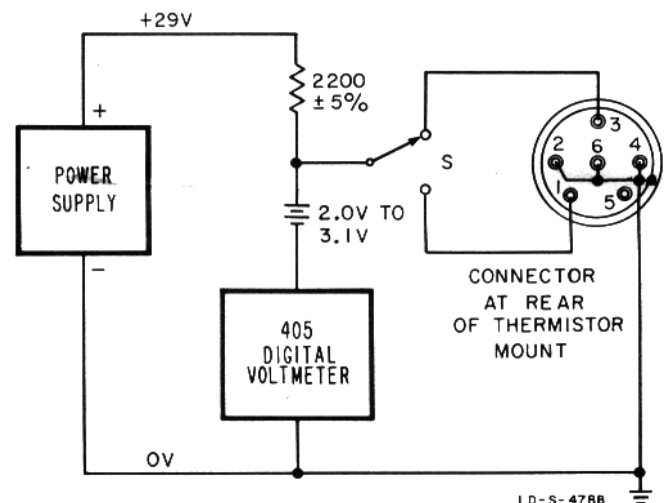

Figure 6. Check on Model 478A Thermistor Resistance Match
52. Match between the thermistors may be checked by comparing the thermistor resistances under simulated operating conditions. Equipment required is indicated in Figure 6. Make connections to the connector at the rear of the thermistor mount; pins are shown in Figure 6. Note that the small battery in series with the HP Model 405 Digital Voltmeter is connected in opposition to the power supply. The value of this bucking voltage should be such that voltmeter resolution down to 0.001 volt is obtained. Take readings with switch S connected to pin 1 and then to pin 3. Thermistor match is satisfactory if the two readings do not differ by more than 0.030 volt. Nonoperating mounts with readings as high as 0.150 volt can probably be repaired as outlined in the succeeding paragraphs.